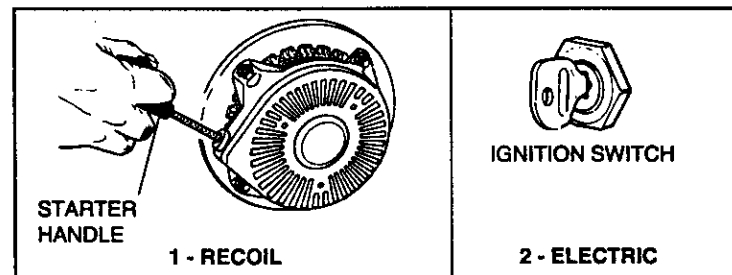

Figure 2
- ① **RECOIL STARTER** (see Figures 2 and 3):
C. Grasp starter handle (see Figure 2) and pull rope out, slowly, until it pulls slightly harder. Let rope rewind slowly. Then pull rope with a rapid full arm stroke. Let rope rewind SLOWLY. Do not let starter handle snap back against starter.
- ② **ELECTRIC STARTER** (see Figures 2 and 3):